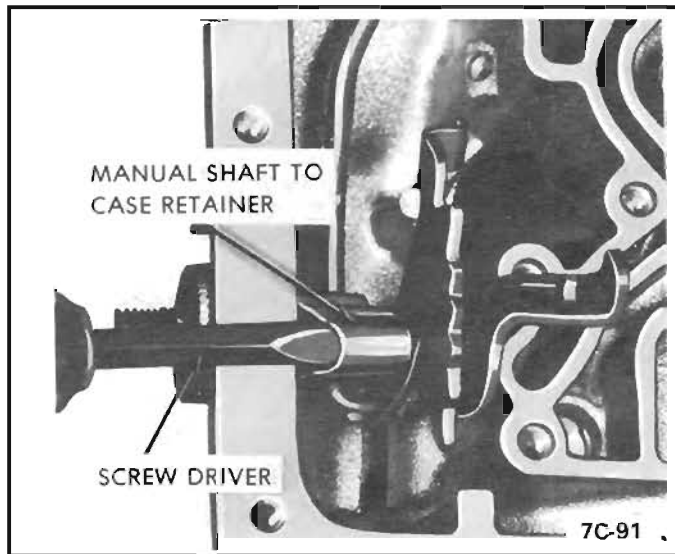

Figure 20 Manual Shaft Retainer Removal
15. Remove manual shaft retaining clip with screwdriver and slide manual shaft outward. This will allow the control valve "S" link to be removed. *See Figure 20.*